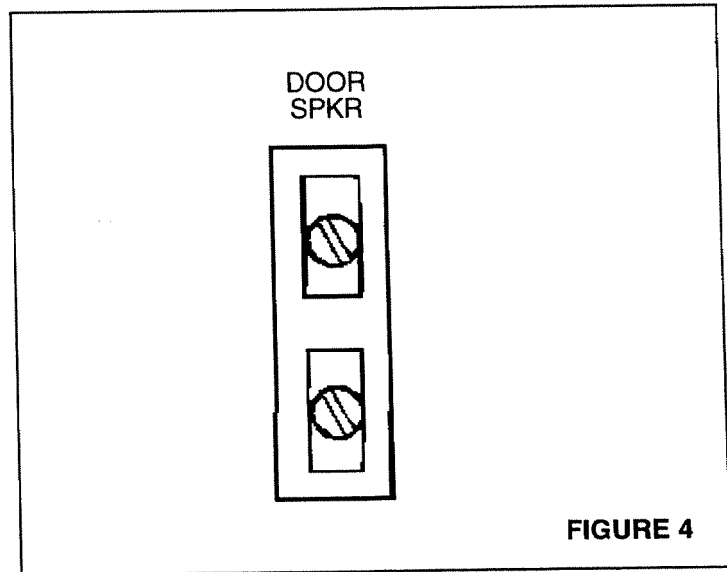

FIGURE 4
2. Refer to Figure 4. Connect two wires from the door speaker to the two terminal screws marked **DOOR SPKR** on the terminal board.